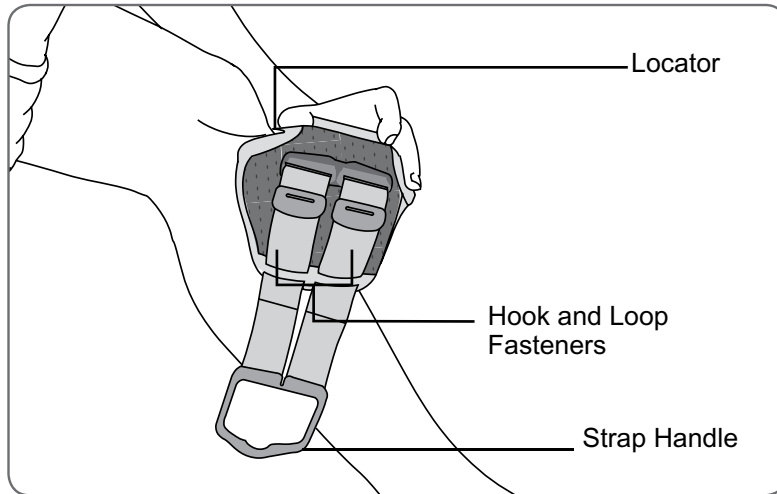
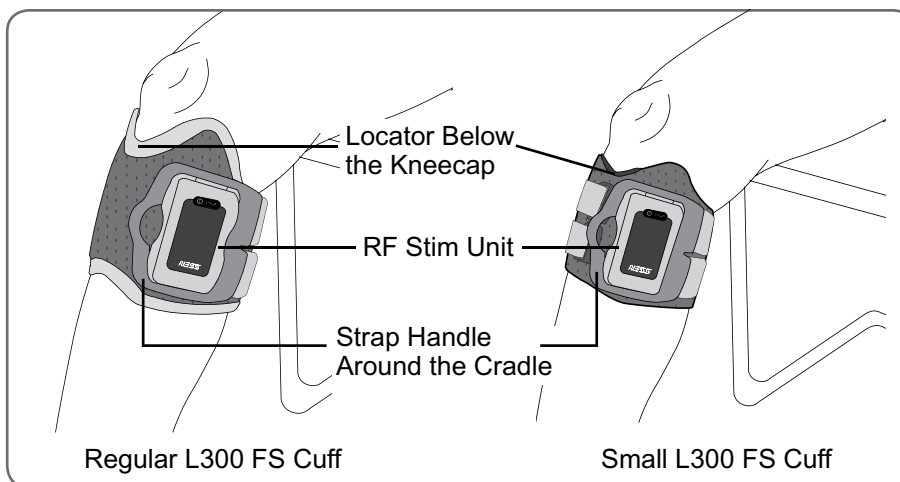

Figure 6-2: Tilting the L300 FS Cuff for placement on your leg.
Figure 6-4: L300 FS Cuff fastened on the right leg.
4. Make sure the electrodes are securely attached. Then, grasp the front of the L300 FS Cuff by the cradle and tilt the bottom of the FS Cuff up. Slide the locator up your leg until it rests snugly and comfortably below your kneecap. See Figure 6-2.
7. Make sure the L300 FS Cuff is correctly positioned. See Figure 6-4. If it is not, take off the FS Cuff and reposition it. Adjust the hook and loop fasteners (see Figure 6-2) to ensure a snug fit.